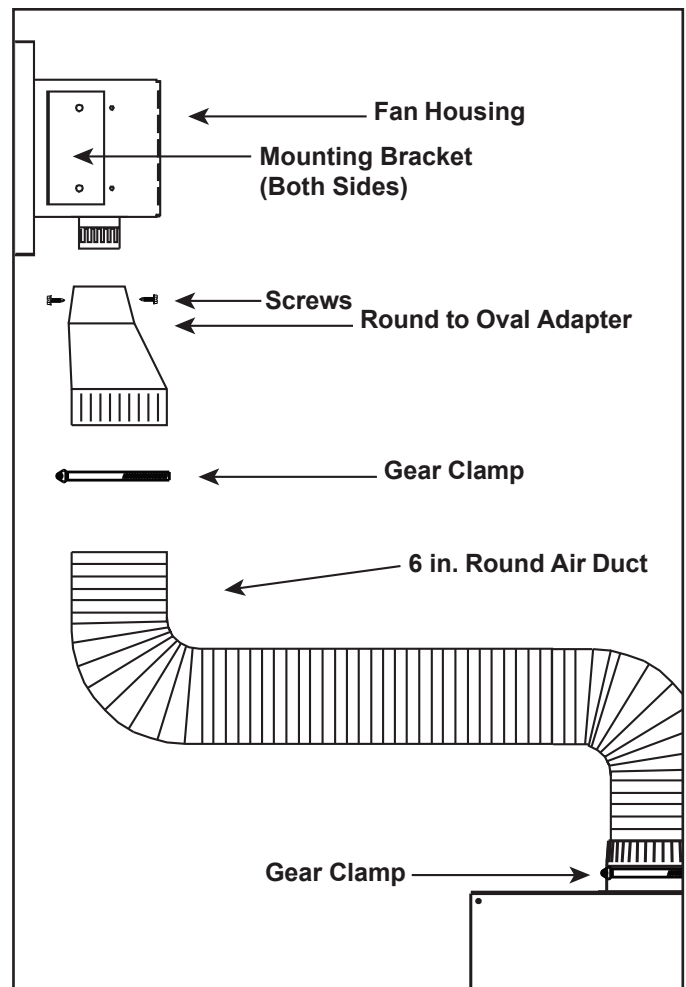

Figure 4.
- Attach included air duct to the HEAT-ZONE-PRIMO collars with gear clamps. See Figure 4.
- Attach both mounting brackets to the fan housing. See Figure 4.
- Attach round to oval adapter to fan housing with two screws. See Figure 4.